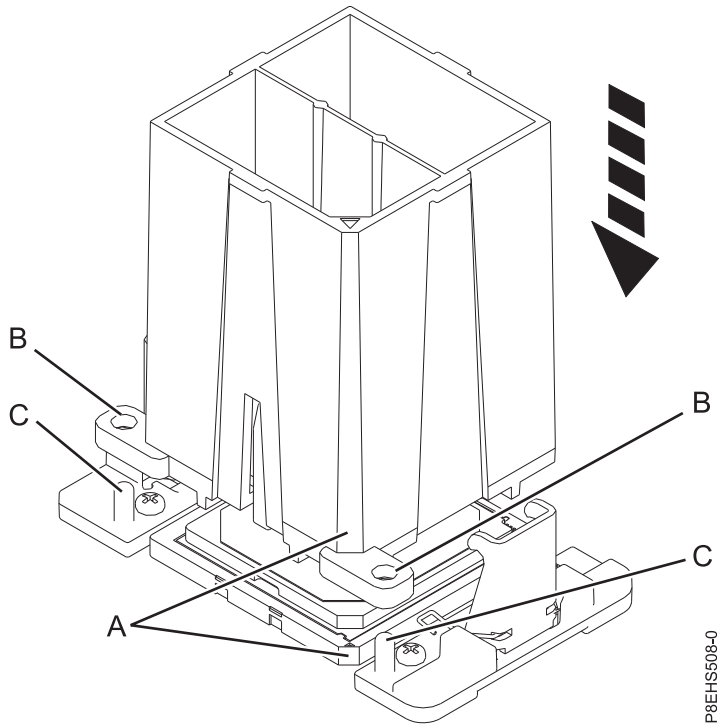

Figure 72. Lowering the removal tool onto the system processor module
- a. Using the supplied removal tool (part number 01AF101), align the beveled corner (**A**) of the tool over the beveled corner of the system processor module as shown in Figure 72 on page 73.